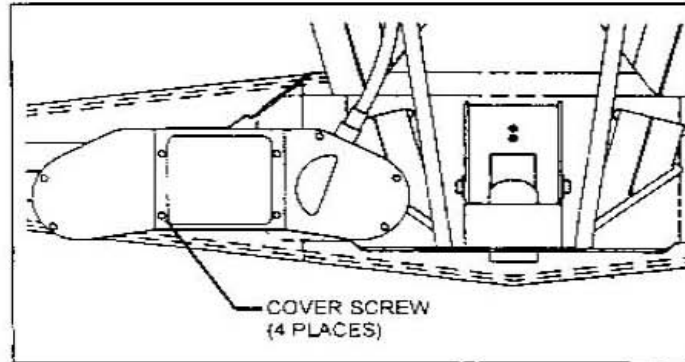

FIGURE 4
4. Turn sensor module over to expose the battery cover, shown in Figure 4 and replace batteries as instructed in paragraphs 5 through 9 of this section.